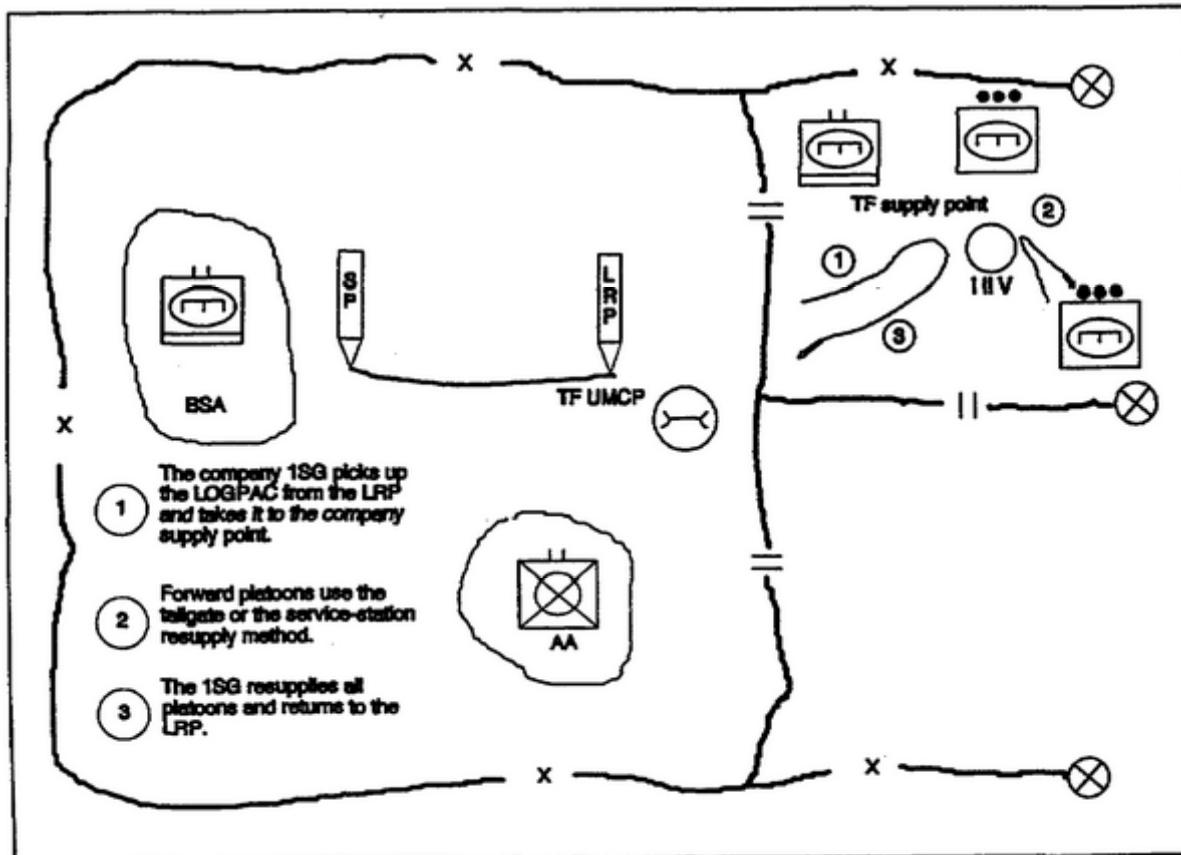

Figure 1-1. Combat service support laydown (one division engineer company).
- (1) Remember that resources are always limited. Materiel, transportation assets, and time affect the ability to execute plans.
- (2) Plan engineer-unit sustainment and the supporting logistics structure in detail. Logistics limitations may restrict the size of the usable engineer force.
(3) Figure 1-1 shows how one division engineer company might pick up supplies. The division engineer battalion is a good place to examine this principle more closely. The task organization and maneuver unit support relationships of the division engineer battalion, and companies determine the scheme of logistical support. If the division engineer companies are in a support relationship, the division engineer battalion uses the logistical packaging (LOGPAC) system to support the companies. If the division engineer companies are in a command relationship with the supported unit, the maneuver unit must incorporate them into the maneuver units LOGPAC system. Each division engineer company and separate element in the division engineer battalion has a LOGPAC system. Each element integrates their LOGPAC into the maneuver LOGPAC resupply system and moves forward to a specified logistical release point (LRP) for routine resupply. The Supply Officer (US Army) (S4) works in conjunction with the headquarters and headquarters commander and each company executive officer (XO) to determine LRP locations. LRPs are located well forward based on the tactical situation.